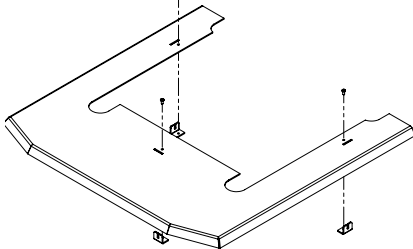
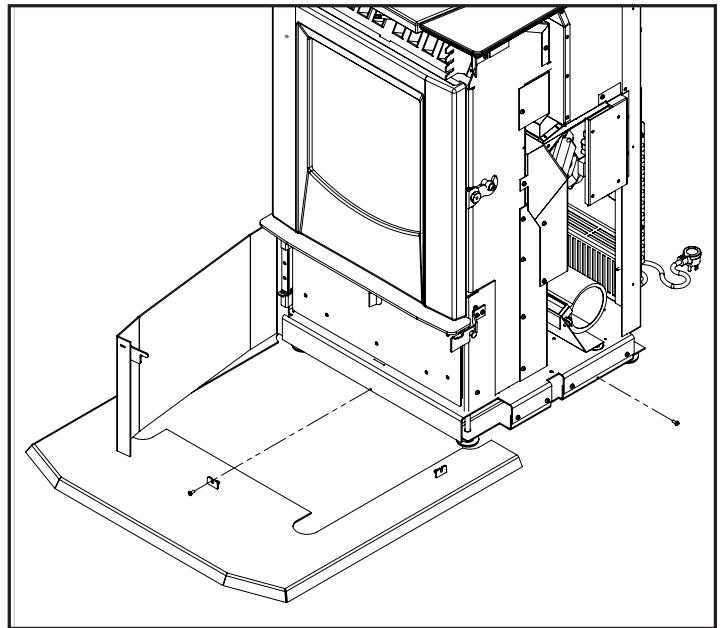

Figure 4a: Hearth Pad Tab Install
Figure 4b: Hearth Pad Install
1. First install the hearth pad if you plan on using it. You will need to install the Hearth Pad Mounting Tabs before installing the Hearth Pad. The Mounting Tabs are installed by screwing one #8-32 T-20 screw through the Hearth Pad and into each Mounting Tab (there are three total). See Figure 4a. You may have to unscrew feet to raise unit up. Tilt the unit so it is balancing on the back feet, slide the hearth pad under the unit while making sure the side mounting tabs are on the outside of the base flange. Once holes are aligned secure with provided T-20 thread rolling screws. See Figure 4b.